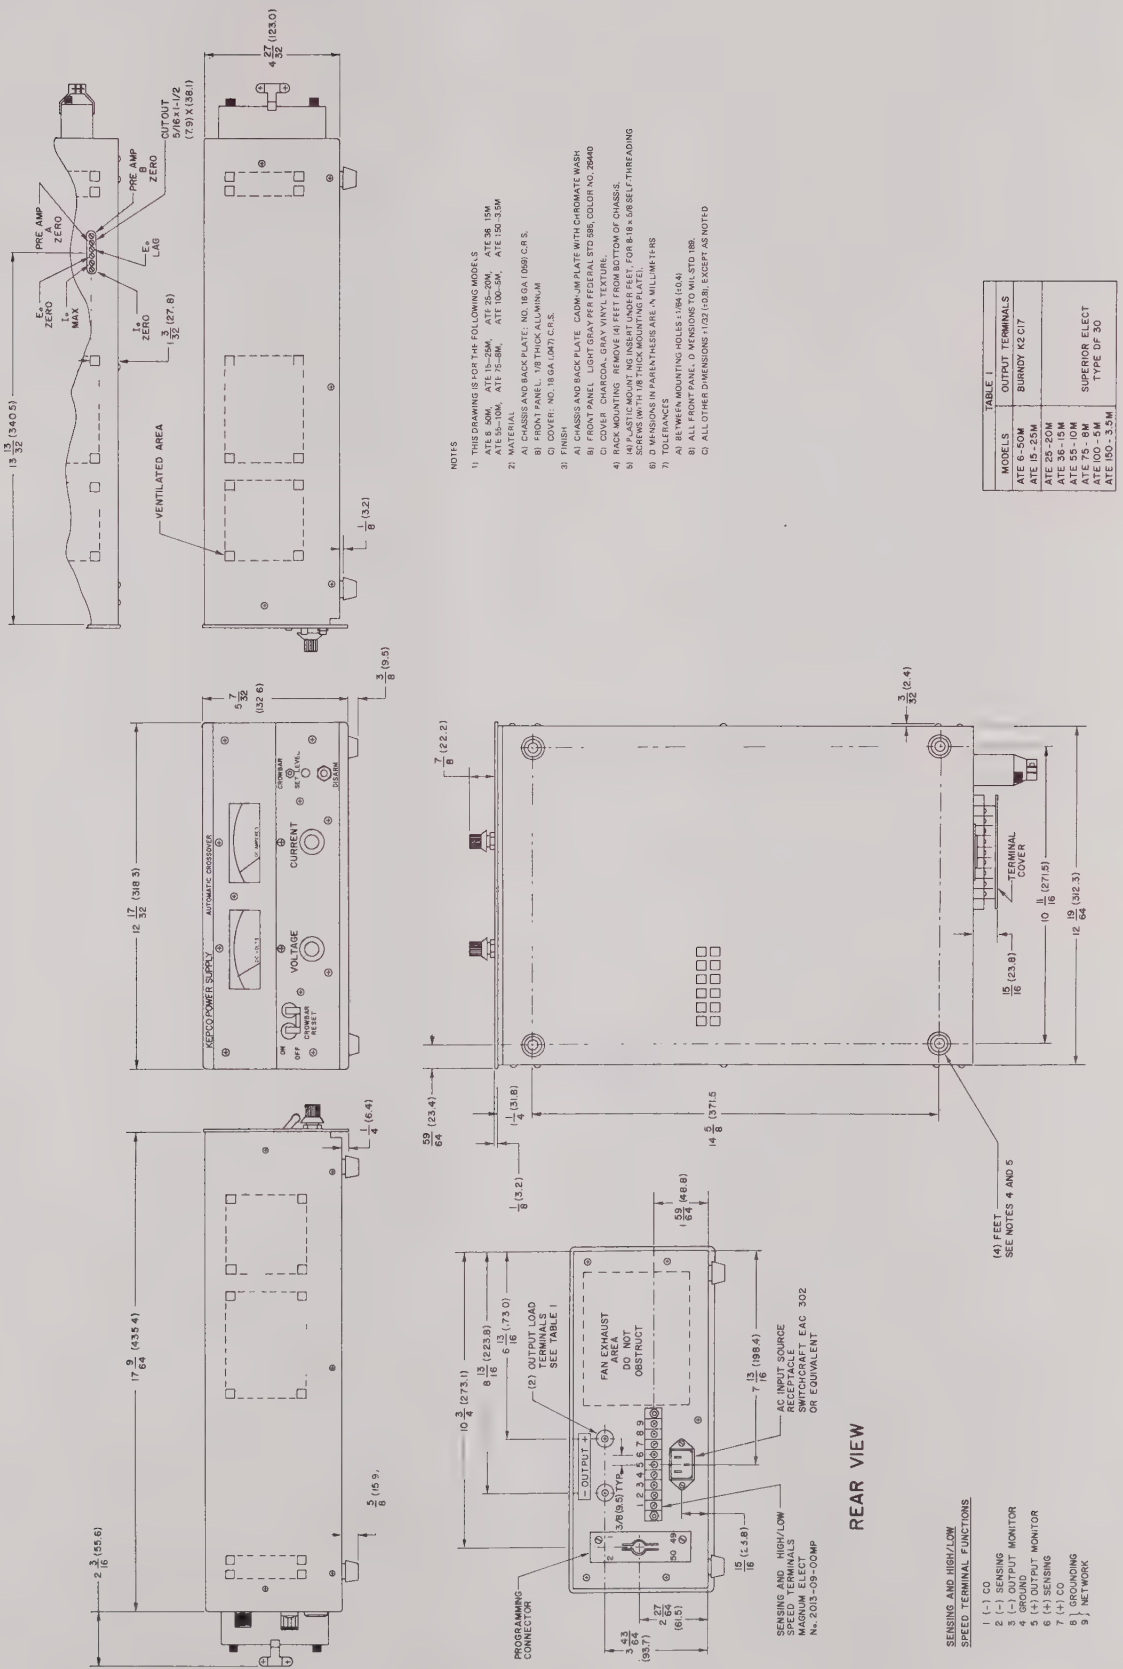

FIG. 1-2 MECHANICAL OUTLINE DRAWING
a) Refer to the "Mechanical Outline Drawing", FIG. 1-2.